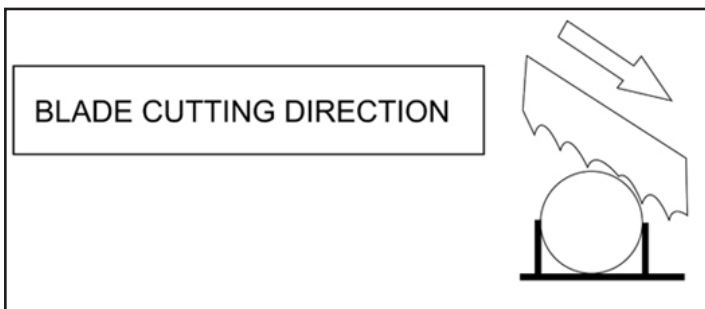

Figure 15: Blade Cutting Direction.
8. Ensure that the saw is turning in the right direction, see Figure 15.